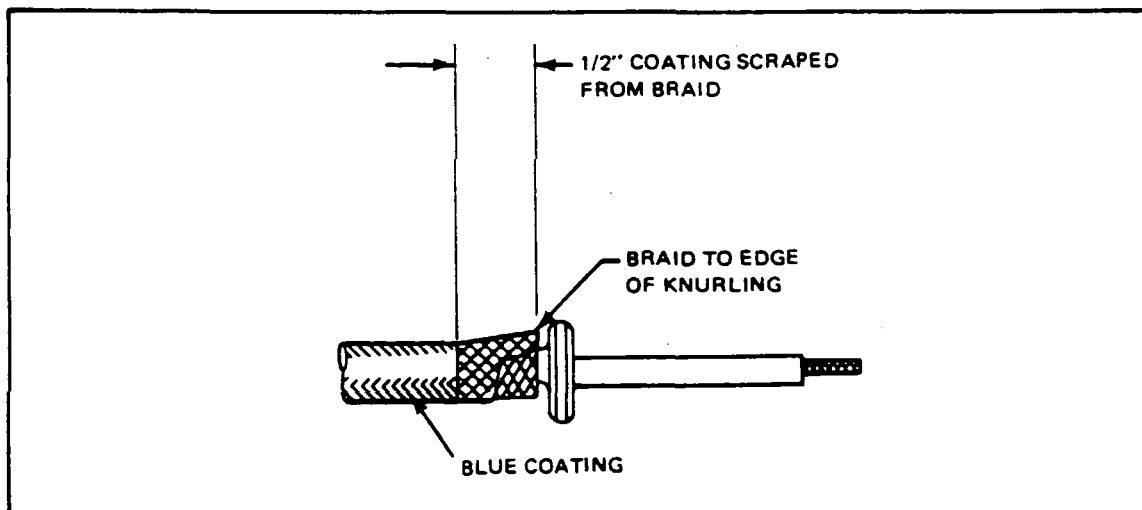

Figure 8-33. Ferrule Positioned Under Braid
6. Push back braid and thread a new ferrule over wire and under braid until braid just covers knurling. (Refer to Figure 8-33.)